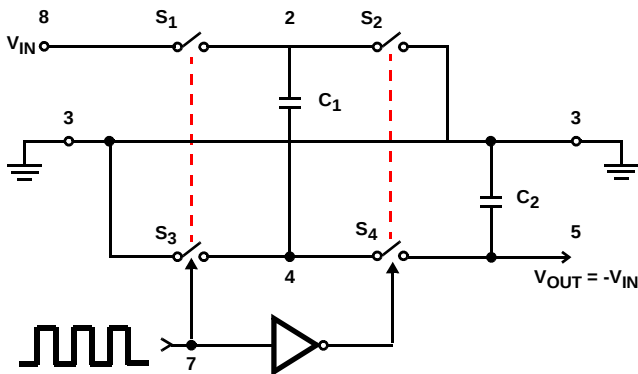
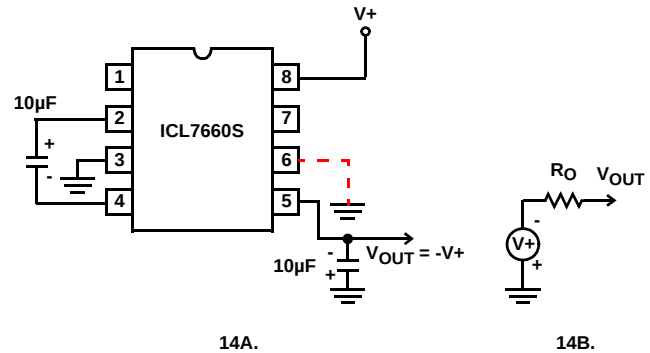
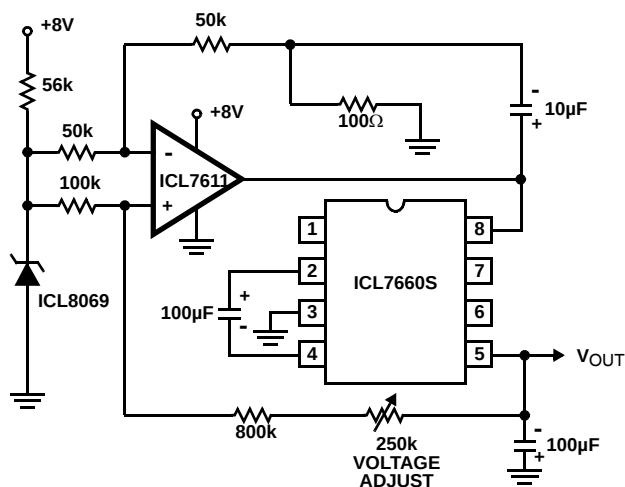

FIGURE 13. IDEALIZED NEGATIVE VOLTAGE CONVERTER
FIGURE 14. SIMPLE NEGATIVE CONVERTER AND ITS OUTPUT EQUIVALENT
FIGURE 20. REGULATING THE OUTPUT VOLTAGE
In the ICL7660S, the 4 switches of Figure 13 are MOS power switches; S_1 is a P-Channel devices and S_2 , S_3 and S_4 are N-Channel devices. The main difficulty with this
where V_1 and V_2 are the voltages on C_1 during the pump and transfer cycles. If the impedances of C_1 and C_2 are relatively high at the pump frequency (refer to Figure 13) compared to the value of R_L , there will be substantial difference in the voltages V_1 and V_2 . Therefore it is not only desirable to make C_2 as large as possible to eliminate output voltage ripple, but also to employ a correspondingly large value for C_1 in order to achieve maximum efficiency of operation.
The majority of applications will undoubtedly utilize the ICL7660S for generation of negative supply voltages. Figure 14 shows typical connections to provide a negative supply where a positive supply of +1.5V to +12V is available. Keep in mind that pin 6 (LV) is tied to the supply negative (GND) for supply voltage below 3.5V.
The output characteristics of the circuit in Figure 14 can be approximated by an ideal voltage source in series with a resistance as shown in Figure 14B. The voltage source has a value of $-(V^+)$. The output impedance (R_O) is a function of the ON resistance of the internal MOS switches (shown in Figure 13), the switching frequency, the value of C_1 and C_2 , and the ESR (equivalent series resistance) of C_1 and C_2 . A good first order approximation for R_O is:
The ICL7660S may be employed to achieve positive voltage doubling using the circuit shown in Figure 20. In this application, the pump inverter switches of the ICL7660S are used to charge C_1 to a voltage level of $V+ - V_F$ (where $V+$ is the supply voltage and V_F is the forward voltage on C_1 plus the supply voltage ($V+$) is applied through diode D_2 to capacitor C_2 . The voltage thus created on C_2 becomes $(2V+) - (2V_F)$ or twice the supply voltage minus the combined forward voltage drops of diodes D_1 and D_2 .
Figure 21 combines the functions shown in Figure 14 and Figure 20 to provide negative voltage conversion and positive voltage doubling simultaneously. This approach would be, for example, suitable for generating +9V and -5V from an existing +5V supply. In this instance capacitors C_1 and C_3 perform the pump and reservoir functions respectively for the generation of the negative voltage, while capacitors C_2 and C_4 are pump and reservoir respectively for the doubled positive voltage. There is a penalty in this configuration which combines both functions, however, in that the source impedances of the generated supplies will be somewhat higher due to the finite impedance of the common charge pump driver at pin 2 of the device.